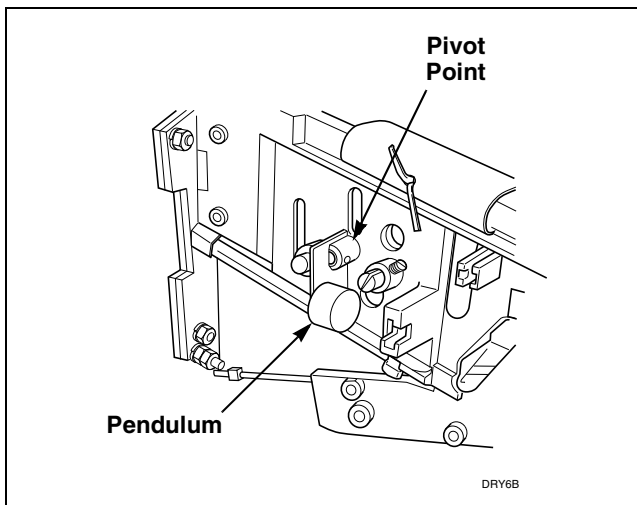

Figure 83
- i. Check coin return pendulum to verify it swings freely. If pendulum does not swing freely, spray pendulum pivot point with Teflon based lubricant and move pendulum back and forth two to three times. An additional application of Teflon based lubricant may be necessary to ensure that pendulum swings freely. Refer to *Figure 83*.